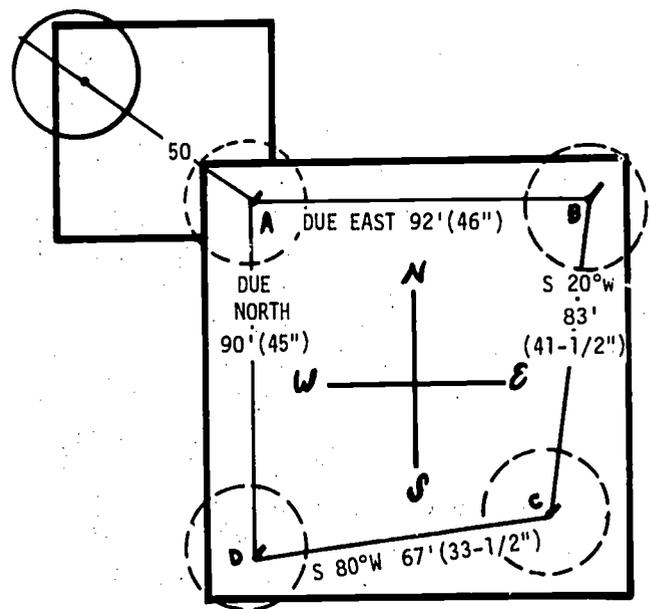

Fig. 11-4. Site Measurements
10. Extend a line S 50° E over to the 48" x 48" piece of plywood. Using the scale $\frac{1}{2}$ " = 1', measure along the scale 20' (10"). This is called point A. Drive a brad at this point. See Fig. 11-4.
12. Place the direction circle over point A, using a square to align it, and measure 46" due east. This is point B. Drive a brad at this point. See Fig. 11-4.
14. Place the direction circle over point B, using a square to align it, and measure $41\frac{1}{2}$ " in the direction S 20° W. This is point C. Drive a brad at this point. See Fig. 11-4.
16. Place the direction circle over point C, using a square to align it, and measure $33\frac{1}{2}$ " in the direction S 80° W. This is point D. Drive a brad at this point. See Fig. 11-4.
18. Place the direction circle over point D, again using the square. If the directions were followed accurately, the distance from D to A should be about 45". See Fig. 11-4.
19. With a string, connect points A, B, C, and D. See Fig. 11-4.